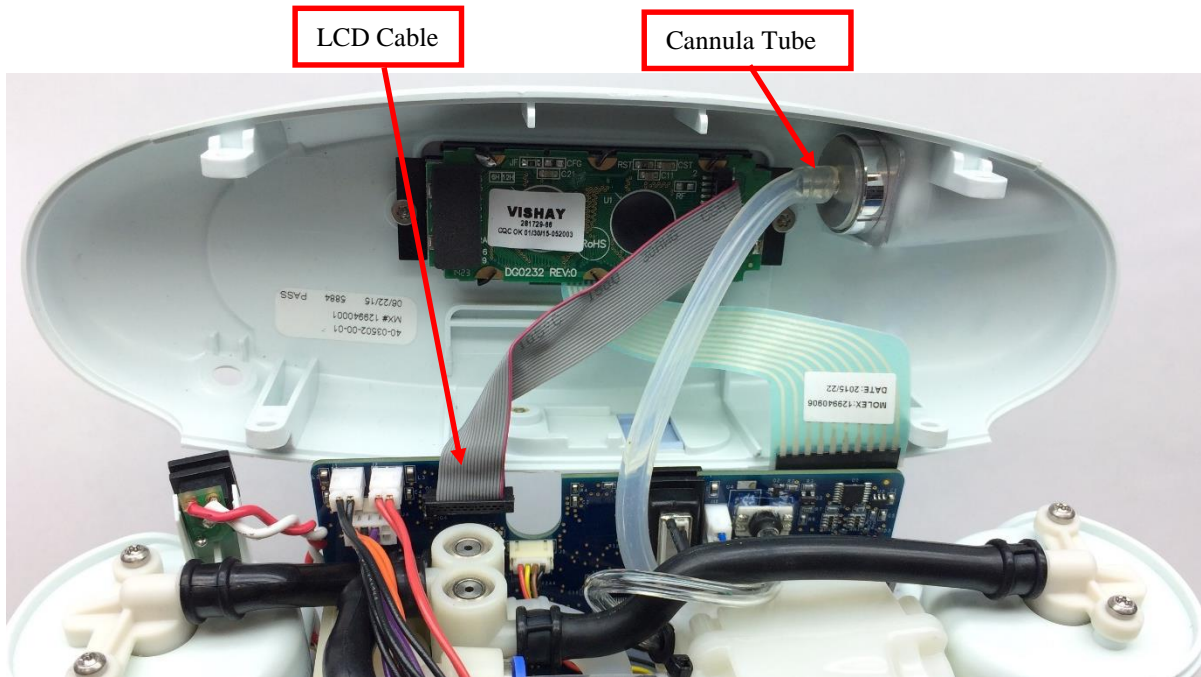

Figure 4: Remove cannula tube and LCD cable from user interface panel
3. Gently unplug the cannula tube and the LCD cable from the user interface panel (Figure 4). Remove the user interface panel.